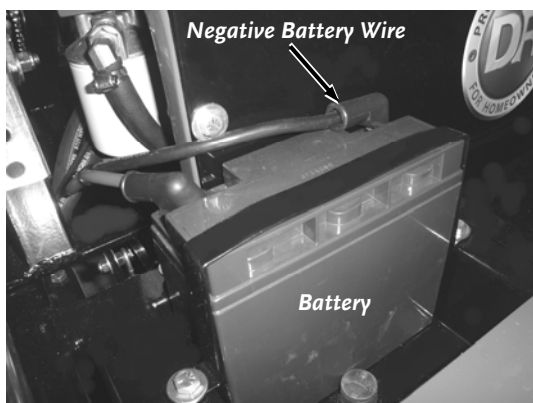

Figure 4
1. Attach the Negative Battery wire to the Negative Battery terminal using two 5/16" Wrenches (**Figure 4**). The Screw and Nut are provided on the Battery Terminal.